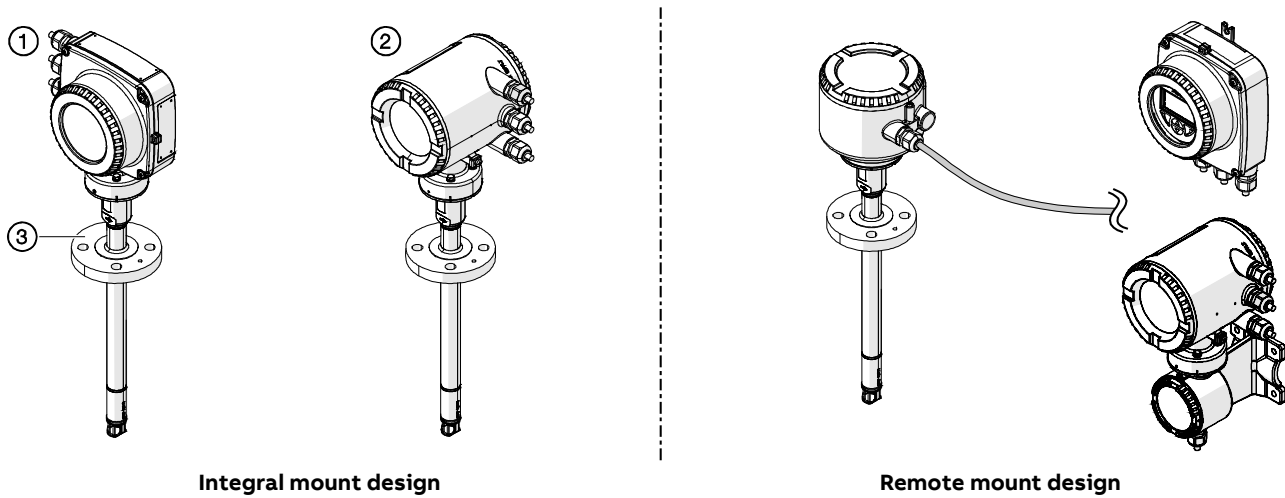

Figure 1: Sensor FMT430, FMT450 (example)
Design	Integral mount design (see "Figure 1" on page 3), remote mount design; Transmitter optionally available in single-compartment housing ① or dual-compartment housing ②